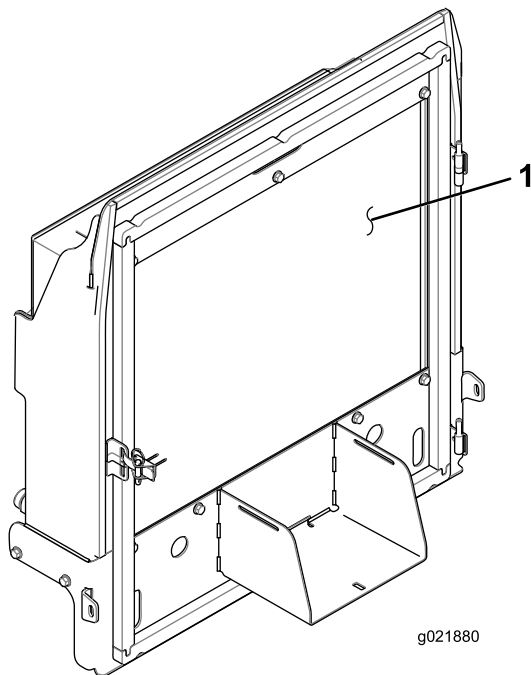

Figure 137
4. Thoroughly clean both sides of the radiator/oil cooler with compressed air (Figure 137).